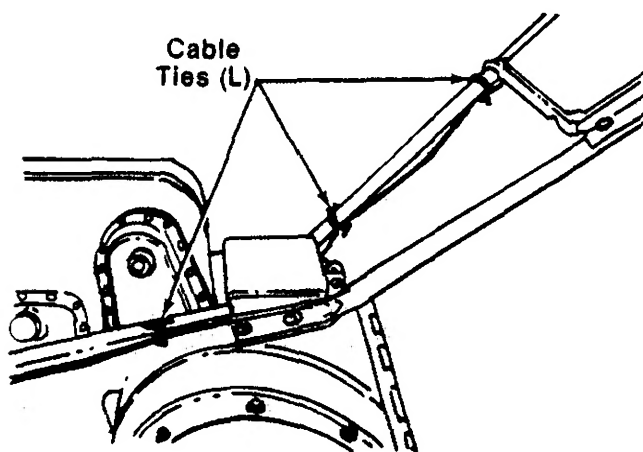

FIGURE 11.
5. Secure all the cables to the right handle as shown in figure 11 with cable ties (L). In addition, secure the throttle cable directly to the tiller frame with cable tie.